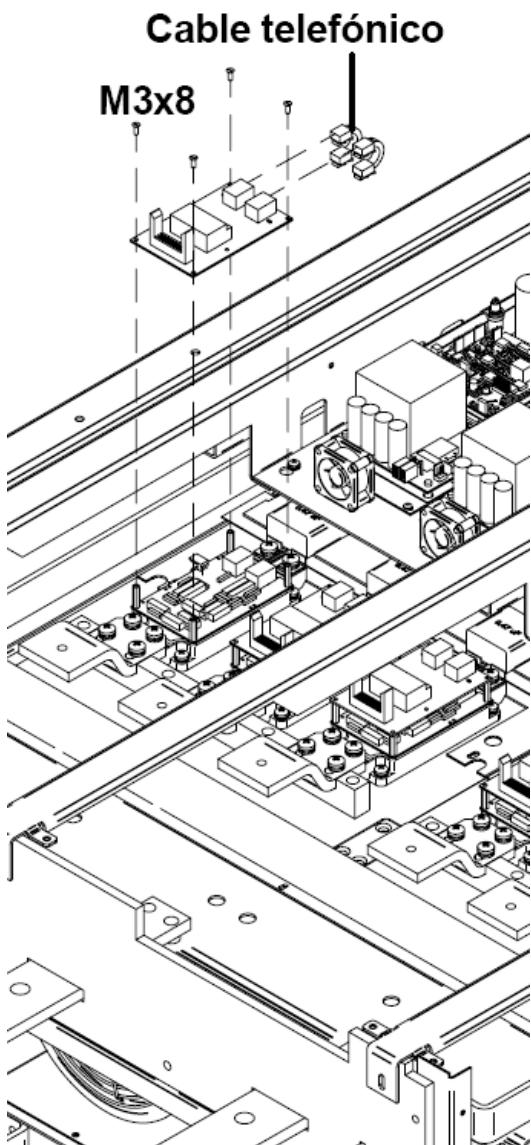

Figure 7.16. Disassembly of the Upper Gate drive
- 6) Place the DCCT Bar as it is shown in *figure 7.16*.
- 1) Insert the SCR in the heat exchanger (figure 7.16)
- 3) Insert the bars (figure 7.16(a))